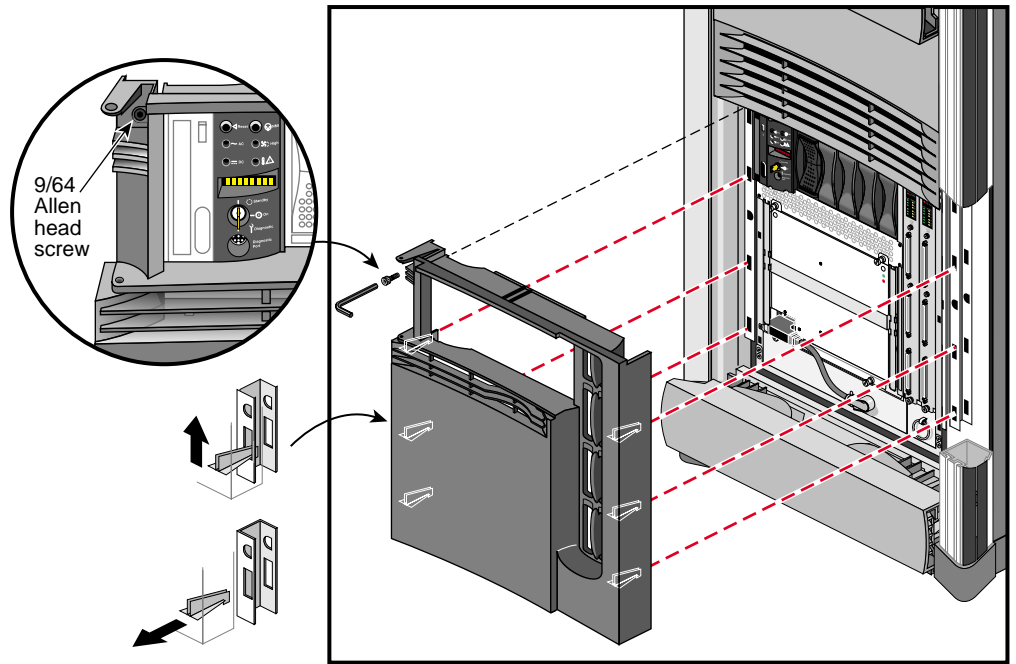

Figure 6-11 Removing the Facade from a System Module
3. Remove the screw that secure the facade to the chassis (see Figure 6-11).